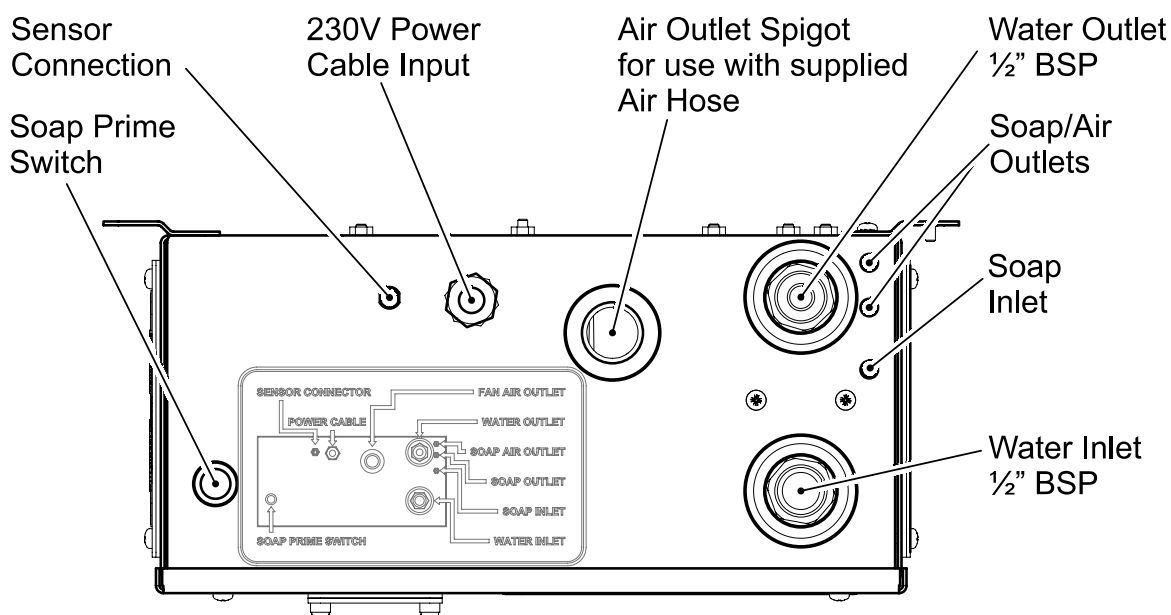

Figure 15: Control Module I/O arrangement.
1. First connect air hose to tap. Ensure jubilee clips are positioned roughly 15mm from each end of air hose. Push one end of air hose over black air hose spigot protruding from the tap head. Then push the other end over the “air outlet spigot” on the Control Module (see fig 15 for reference).
5. Take 2x soap hoses from bottom of tap head and push over “soap and air outlets” indicated in fig 15. Use 2x cable ties to secure soap tube onto outlet spigots.
1. To connect the Control Module to the water supply simply screw on half a ½” BSP connector to the “water inlet” detailed in fig 15.